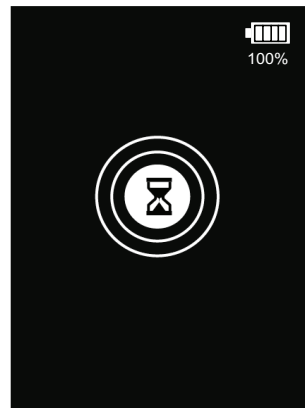

Fig. 5: Warm up mode display
2. The CS LD 1.0 automatically starts warming its sensor. During the warm up mode, the LCD will indicate the progress with increasing concentric rings (Fig. 5) illuminating from the center outwards. Warm up is usually about 20 to 30 seconds, depending on temperature. When all rings are illuminated the Warm-up is complete. Audio is always OFF during warm-up.